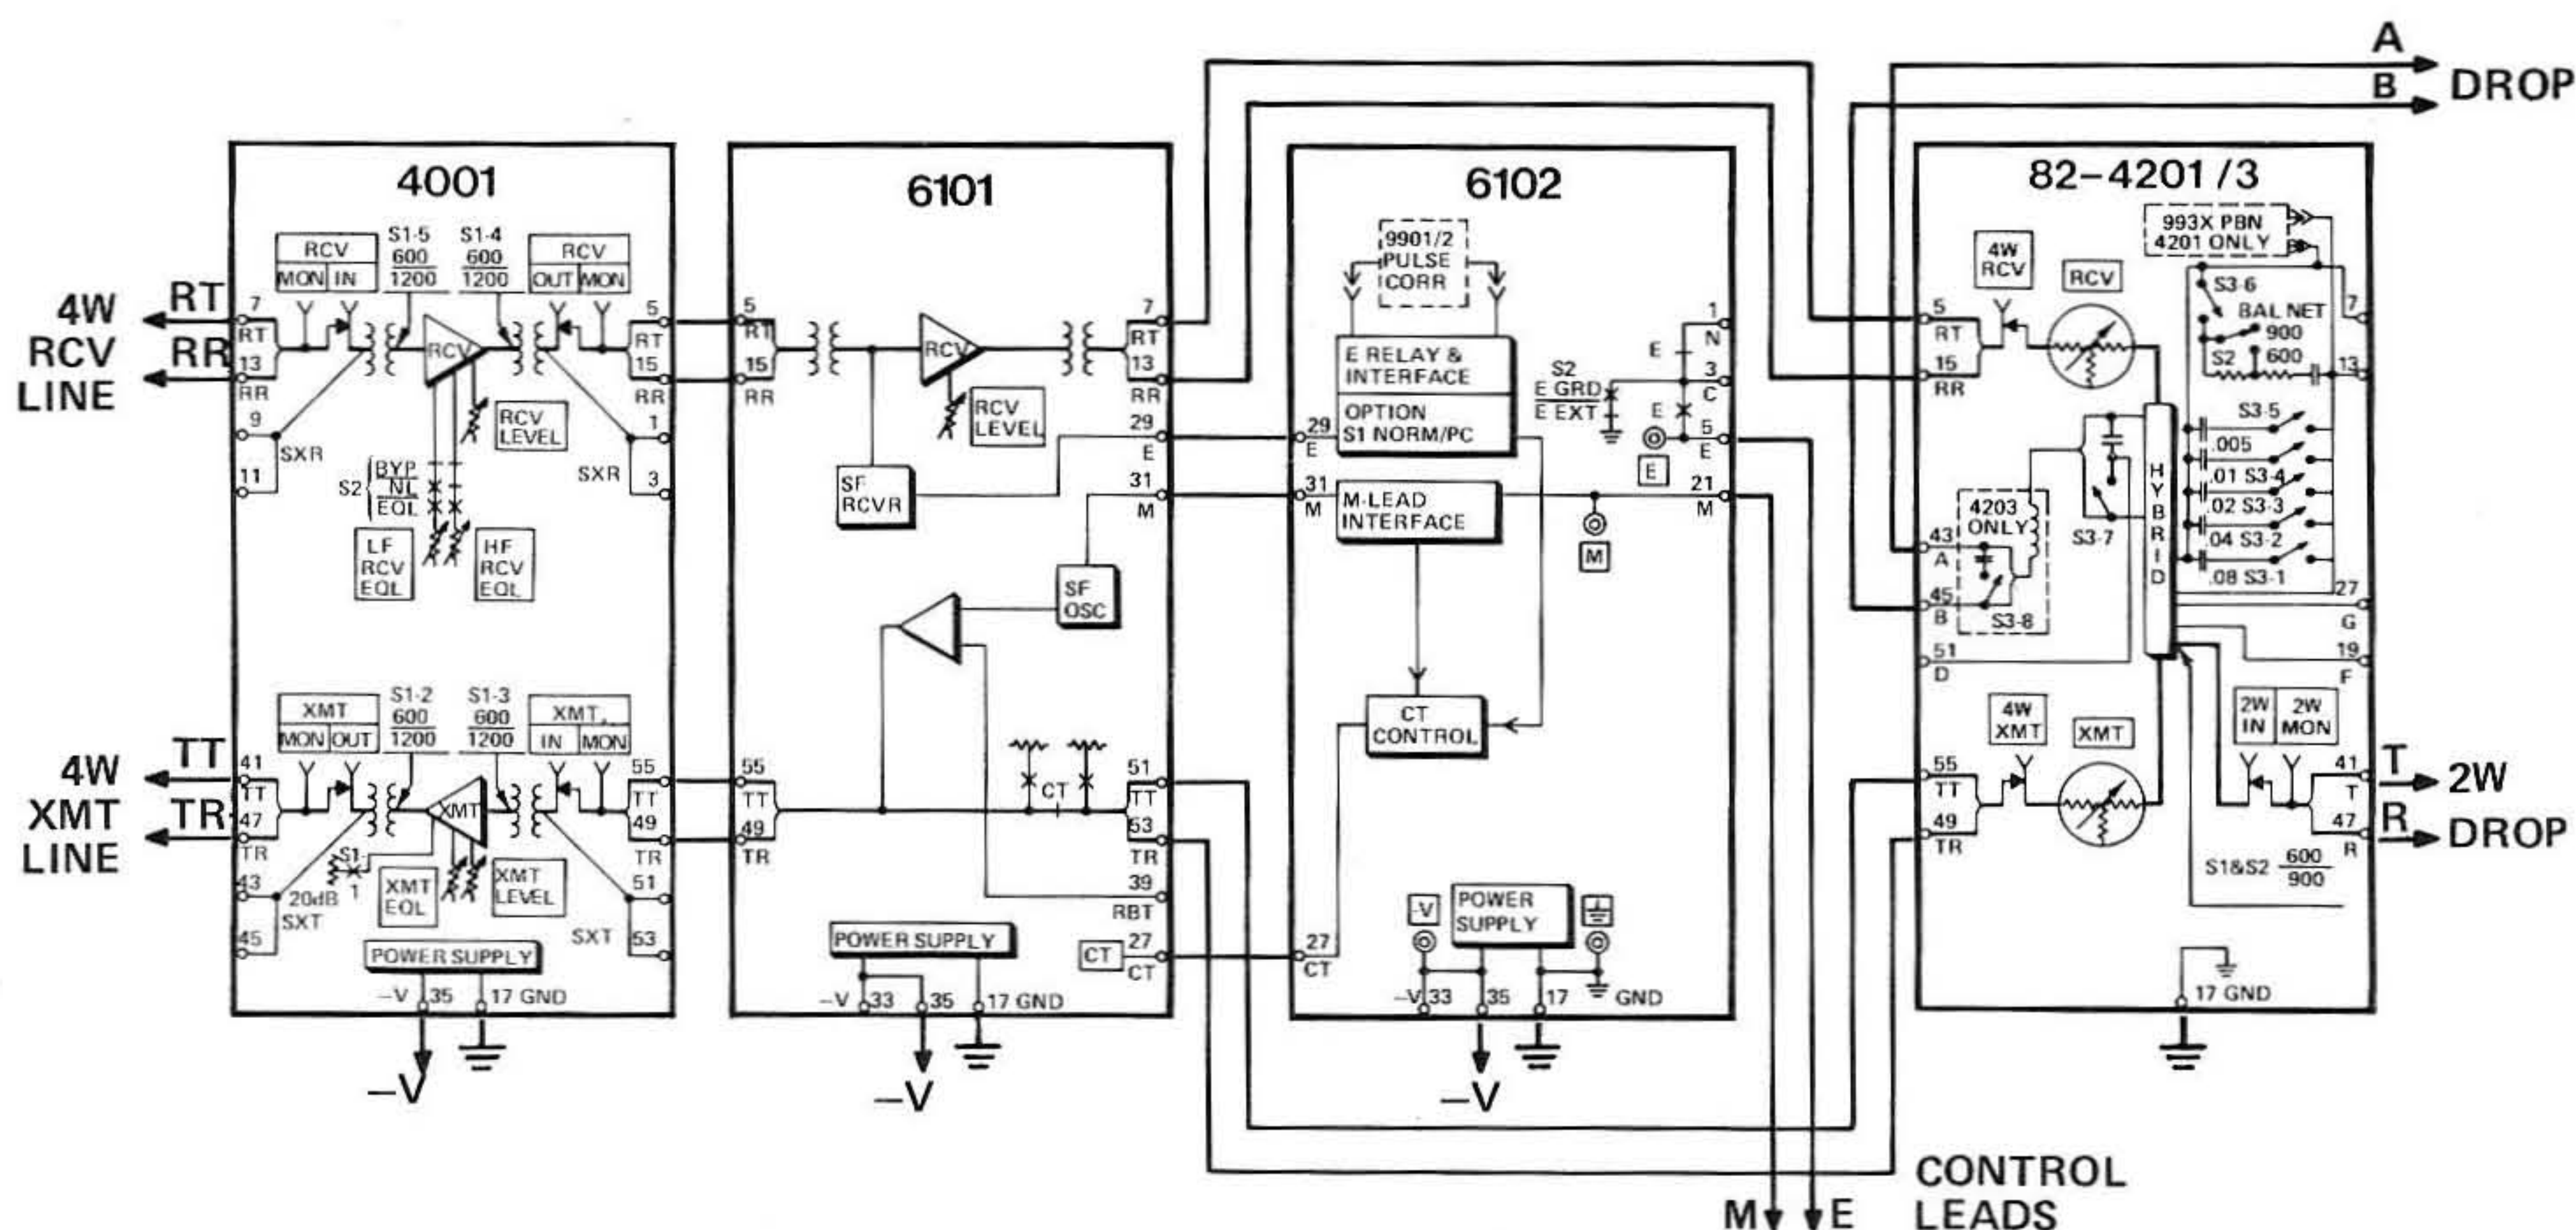

figure 2. Wiring diagram showing leads required when 6101 is used with 6102 Signaling Converter (E and M) in a 261 System.
2.09 For a more thorough explanation of the most typical forms of application of the 6101 module, see the "application" section of the 261 Signaling and Terminating System Practice. Wiring and circuit configurations for common applications are presented in figures 2, 3, 4, and 5 in Section 3 of this Practice.
3.05 Because the 6101 is always used in conjunction with a Signaling Converter module, and these two modules are often used within the context of a Tellabs Type 261 Signaling and Terminating System, block Wiring Diagrams (figures 2 through 5), showing necessary connections for the four most common applications of the 6101, follow.